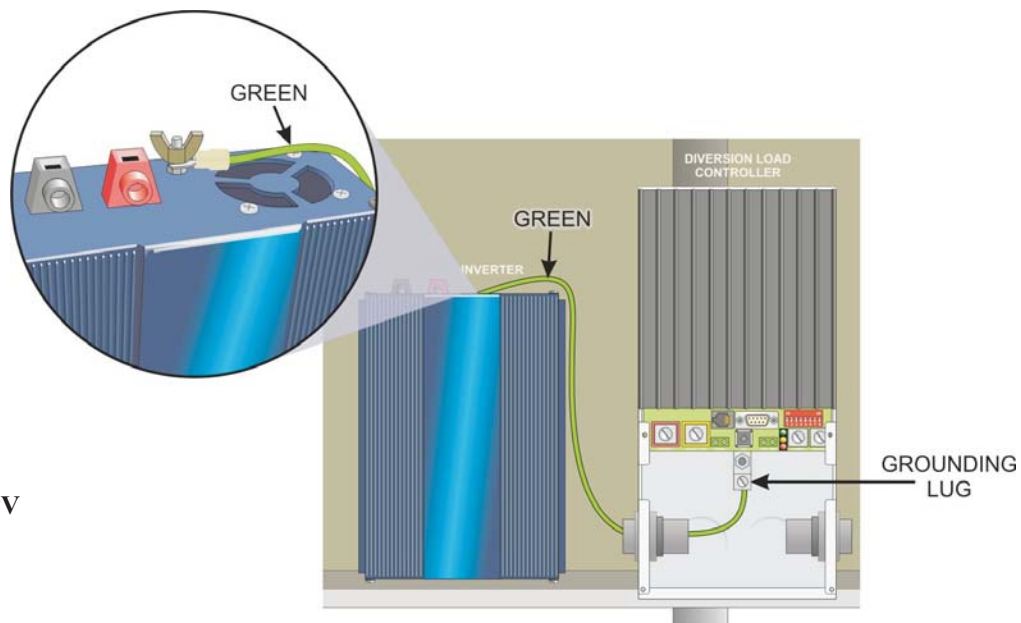

Figure 6-15: The PV Array's Complete Ground Circuit
2. This provides the complete ground circuit for the Marcraft PV array charging system, as shown in Figure 6-15. Check with your instructor to make sure that your system is properly grounded before proceeding.